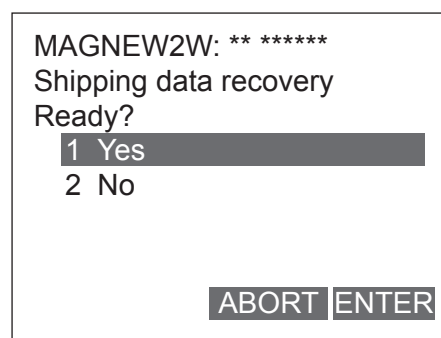

Figure 7-78
Figure 7-78 will then be displayed.
2. When executing shipping data recovery, select “YES” and press F4 (ENTER). Shipping data recovery will execute, and the display will return to Figure 7-78. Press F3(ABORT) to return to the previous menu.